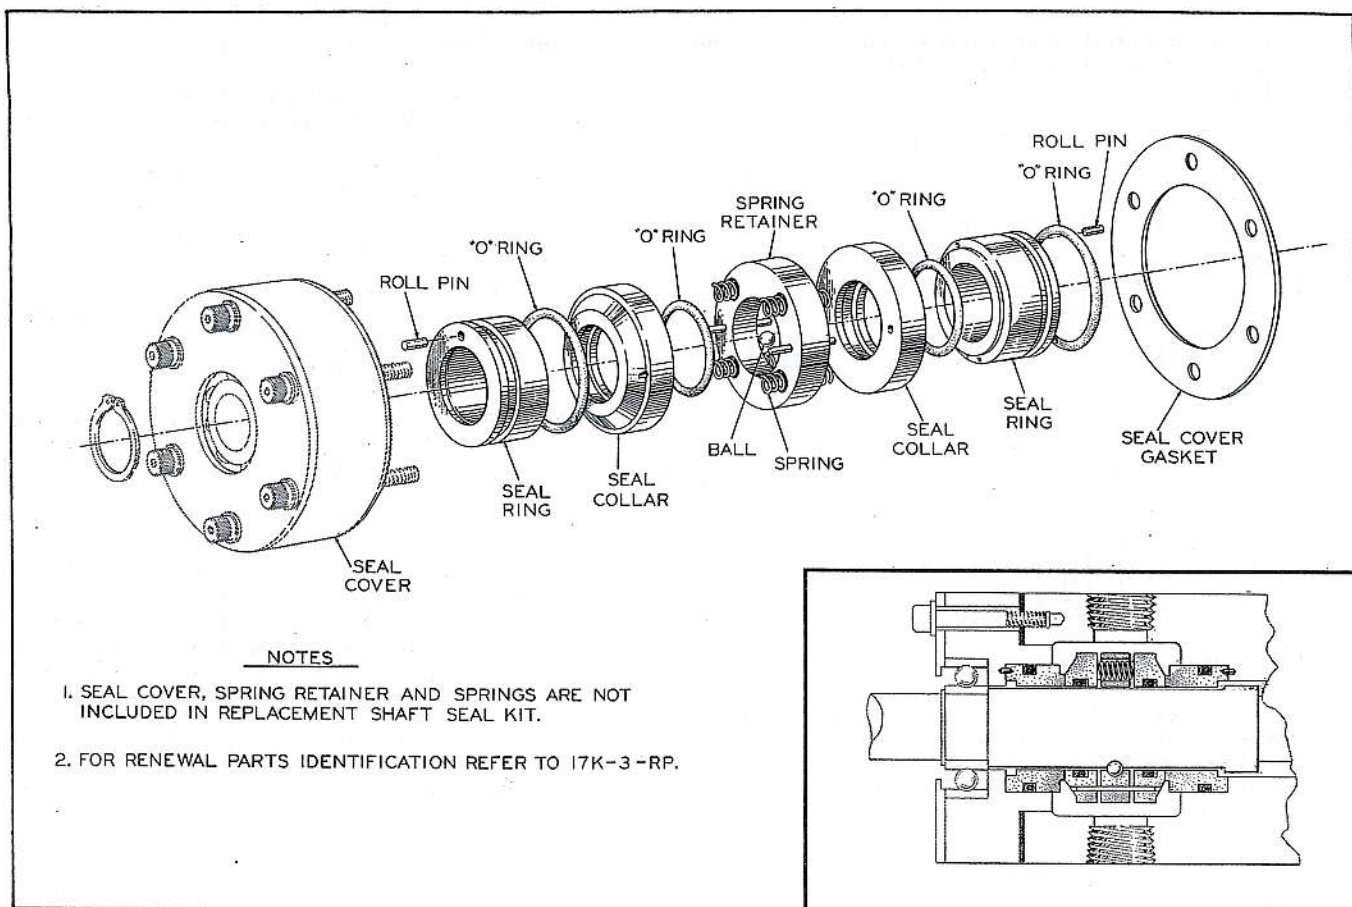

Fig. 10 - Replacement Shaft Seal Assembly
or if the oil level in the oil reservoir suddenly drops, a leaking shaft seal is indicated and the entire assembly should be replaced (See Fig. 10).
If it becomes necessary to replace the shaft seal assembly, refer to Fig. 10 and proceed as follows:
- Remove the inside seal ring (with "O" ring). The inside seal ring is seated (by means of its "O" ring) in the seal body. There are two drilled and tapped holes in this seal ring to receive threaded rods (No. 10-32NF). The seal ring can be removed using the rods as pullers. See Fig. 10.
- (f) The ball bearing at the seal end of the drive shaft is pressed into its seat in the seal cover and is secured by means of a retaining ring which grips the shaft (See Fig. 10). If it is necessary to replace this bearing, it is only necessary to press the worn bearing out of the seal cover and press the new bearing into place until it is seated in the seal cover.